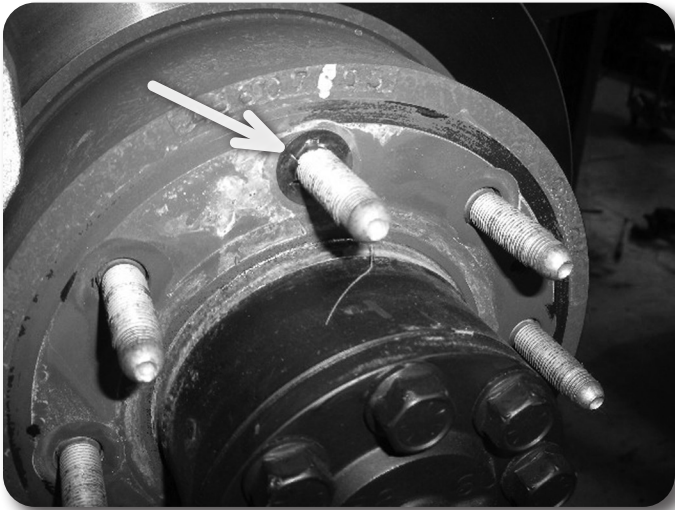

Figure 58
18. Remove clips on wheels **Figure 58**. Reinstall wheels and lower vehicle to the ground. Torque u-bolts to 125 ft-lbs. Torque lug nuts to 140 ft-lbs.